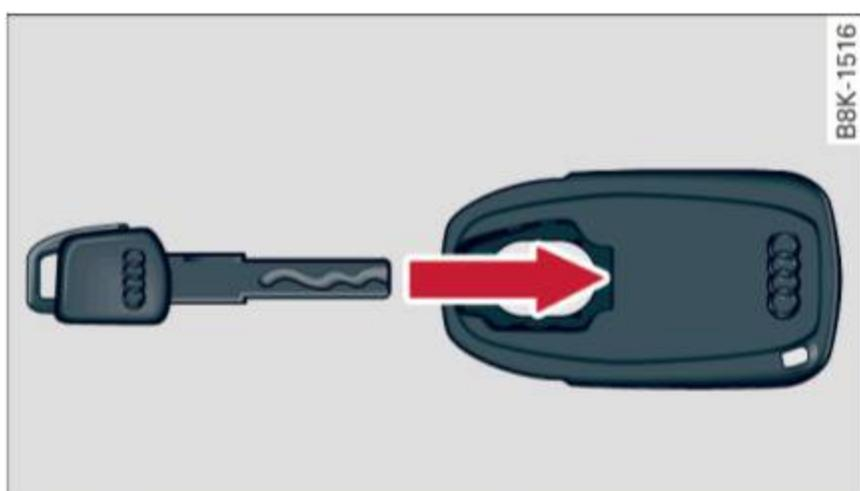

Fig. 79 Insert emergency key into the adapter
- ▶ Push the emergency key ⇒ *fig. 79* fully into the adapter. Make sure that the Audi rings are facing up.